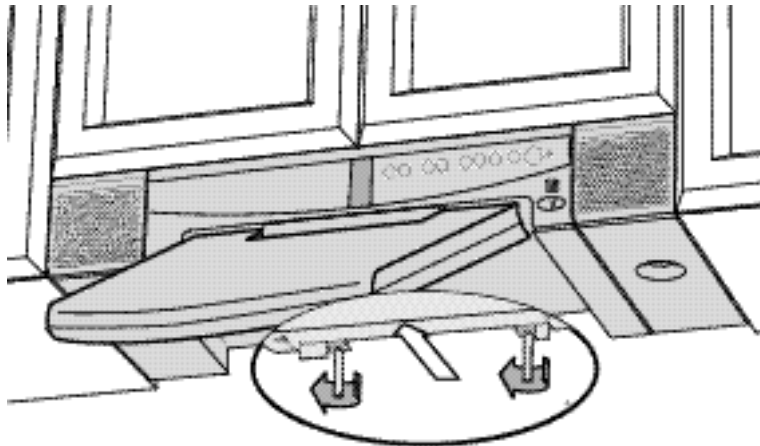

FIGURE 3. Loosening the lock pins
2. Using either your fingers or a flat screwdriver, reach behind the back panel to unscrew and loosen the 2 steel lock pins (Figure 3). This will allow the unit to slide forward on the mounting bracket.